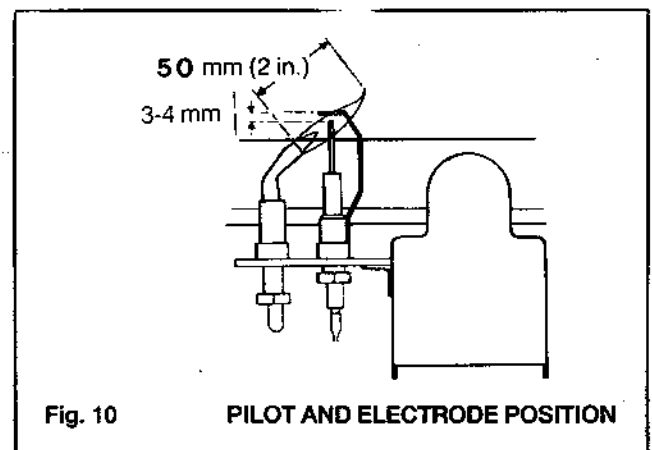

Fig. 10
- The spark gap is correct - Refer Fig. 10.
Light the boiler & check that the pilot flame is 50 mm (2 in) long, as shown in Fig. 10. The pilot adjuster screw is factory set to maximum & no adjustment should be necessary. However, if the pilot flame appears small, check the adjustment of the pilot pressure adjuster screw (S) - refer Fig. 9 - as follows:
- Turn the pilot pressure adjuster screw (S) CLOCKWISE until fully CLOSED.